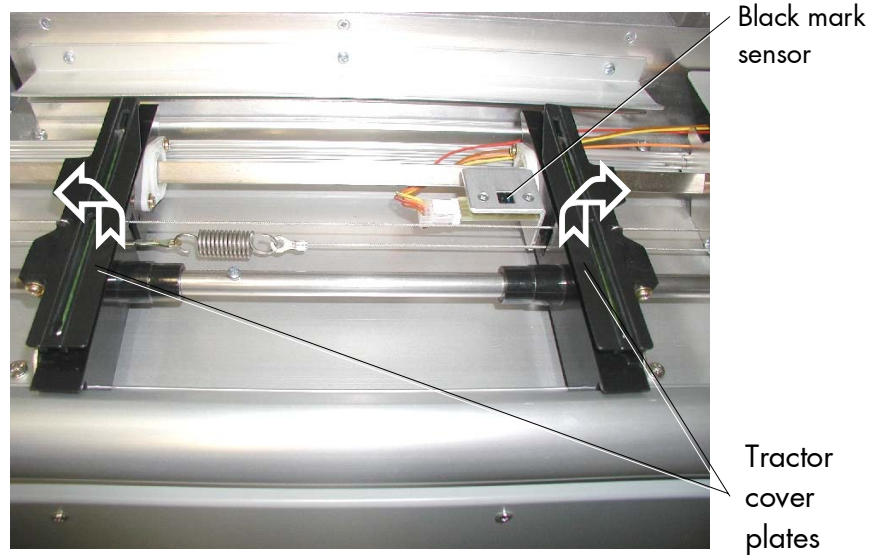

Fig. 4.3.2.1.c Opening the tractor cover plates
- Use the knob (see figure 4.3.2.1.d) to spread out the tractor to the paper width of your fanfold media (rough adjustment).